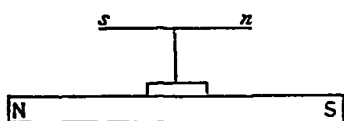

FIG 139
**Magnetic Dip**—Place a small magnetic needle on a stand *ns* (fig 139), upon a bar magnet *NS*, so that its pivot is over the centre of the bar magnet. The needle sets parallel to the bar magnet, its N-seeking pole being towards the S-seeking pole of the bar magnet, and its plane horizontal, move the stand towards one end of the bar magnet, the needle dips its point towards the pole at that end